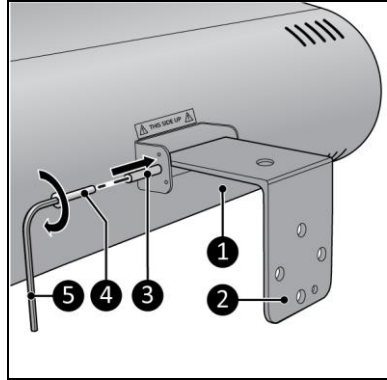

Figure 5
1. Lay the main body (Figure 5, pos. 1) down on a steady surface with the attention sticker "THIS SIDE UP" as shown in the image.
2. Place the suspension bracket (Figure 5, pos. 2) between the device bracket.
4. Screw and tighten the large screw (Figure 5, pos. 4) and the nut (Figure 5, pos. 3) with an Allen key (Figure 5, pos. 5).